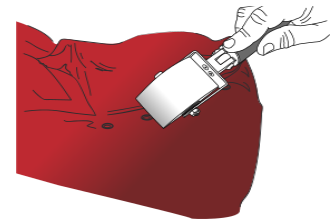

Figure 09
- › Then slide the ROLLRIV (FIG. 09) over the film to make it adhere to the entire rivet surface. Press it all around the rivet using a squeegee or your thumb.